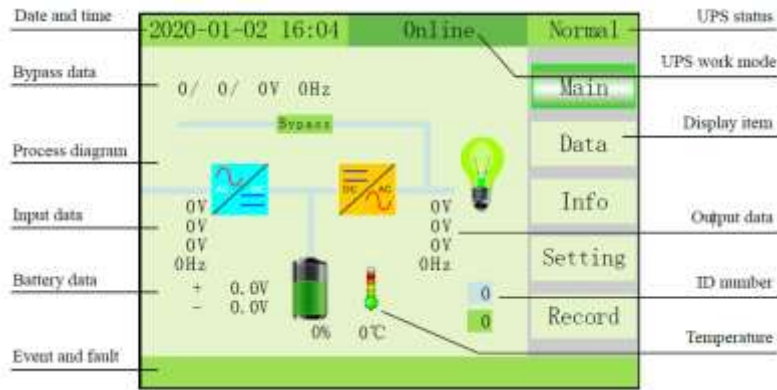

Fig. 4-2 Main interface
- 1) **MAIN**: The main interface below comes out when the power is connected or the system is cold start (Fig. 4-2). Shows UPS status graph.